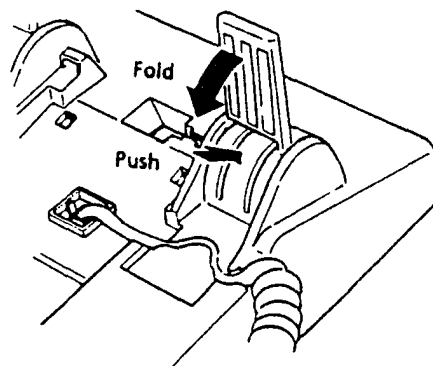

Figure 1-43 Folding the Legs of the Tilt Stand
- c. Fold the legs toward the body of the telephone. (Refer to Figure 1-43 - Folding the Legs of the Tilt Stand.)